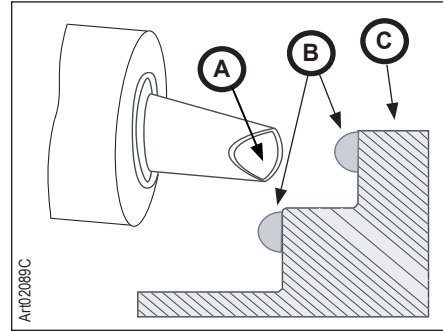
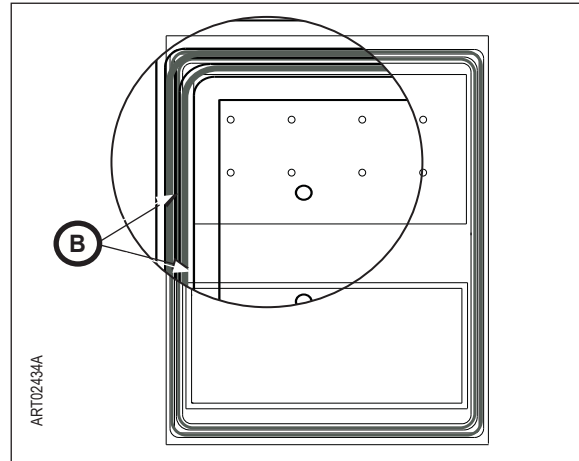

Fig. 10a-Mastic location on refrigerator cabinet
Fig. 10b-Mastic location on refrigerator cabinet
2. To apply correct bead size that results in a complete seal, open mastic tube by cutting the nozzle 3/4 inch from tube at 45 degree angle (Fig. 10a, A).
- Apply a bead of mastic (Fig. 10a, B) and (Fig. 10b, B) that is 1/2 inch wide and 3/8 inch thick, in horizontal direction to two (2) places around the opening in the rear of the refrigerator.